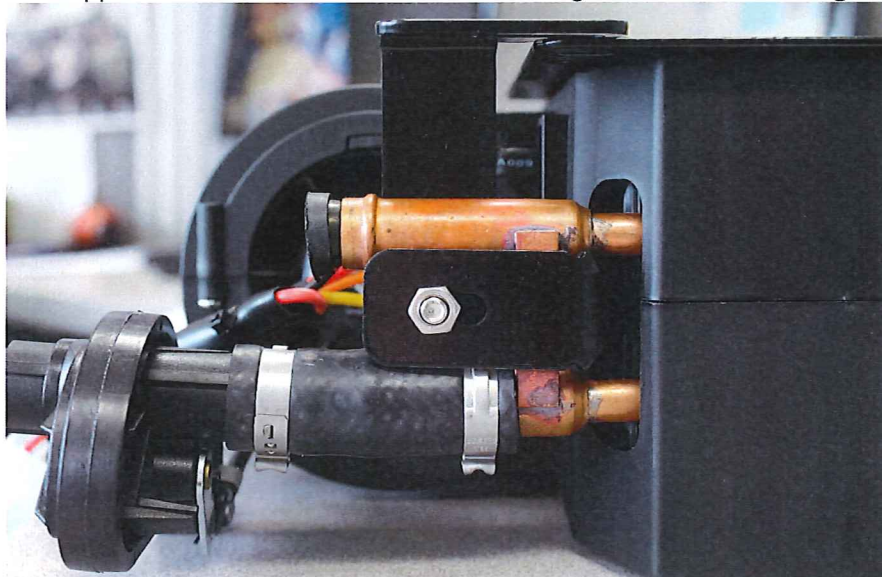

Figure 4
14. Install the Heater Core Support Bracket to the hoses as shown in Figure 4. **Do not over tighten.**